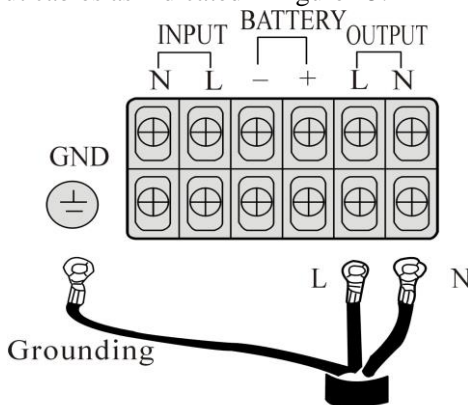

Figure 15
- (2) Connect cables as shown below.
- (3) Once connected, make sure that the earth wire is connected to the earth terminal.
- (4) Check that there is less than 2V difference between earth and neutral.
- (5) Connect output cables to the output terminals.(Figure 15)
- (6) Make sure that the output earth is connected to the ground terminal (Figure 15)
2. Connect output cables as indicated in figure 15.